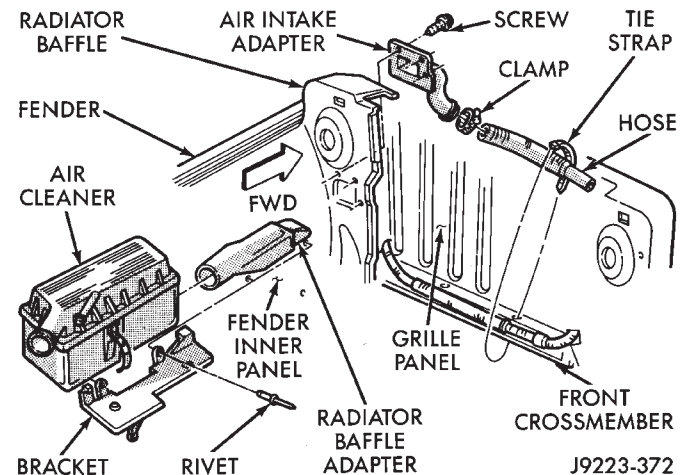
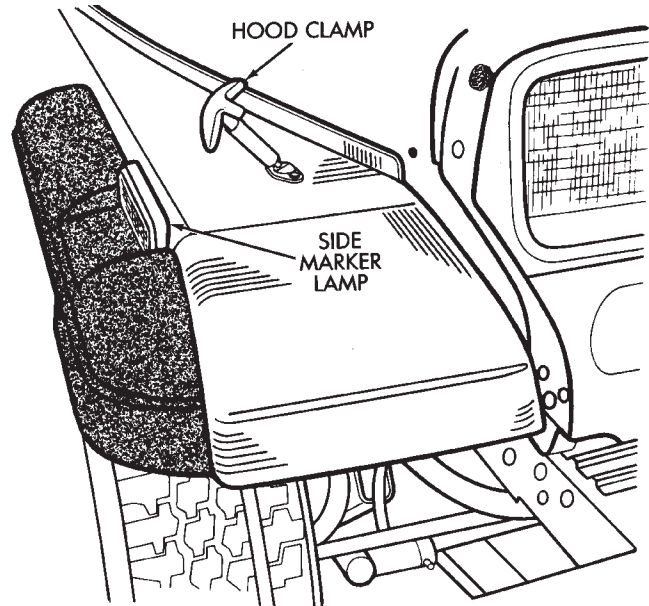

Fig. 22 Air Cleaner Housing and Radiator Baffle Adapter Fender
Fig. 31 Hood Holddown Clamp and Side Marker Lamp
(1) For YJ Renegade vehicles, refer to Front Fender Extension Panel Removal.
(2) As applicable, remove or disconnect all components attached to the fender inner panel.
(3) Left fender:
- remove the air cleaner housing and support bracket from the fender inner panel (Figs. 22 and 23);
- (5) Disconnect the side marker lamp wire harness bulb socket and the hood holddown clamp (Fig. 31).
(5) Connect the side marker lamp wire harness connector and the hood holddown clamp (Fig. 31).
(6) Connect the radio antenna, if equipped.
(7) Install/connect all the components removed/disconnected from the fender inner panel.
(8) Left fender:
- install the air cleaner housing and support bracket on the fender inner panel (Figs. 22 and 23);